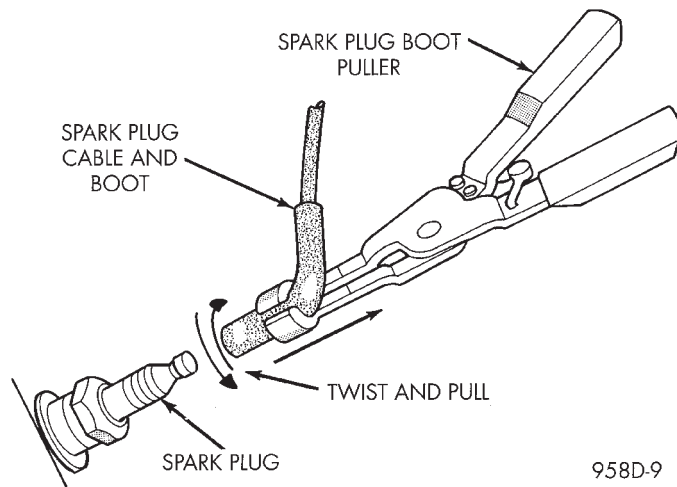

Fig. 19 Cable Removal
(1) Always remove spark plug or ignition coil cables by grasping at the cable boot (Fig. 19). Turn the cable boot 1/2 turn and pull straight back in a steady
CAUTION: When disconnecting a high voltage cable from a spark plug or from the distributor cap, twist the rubber boot slightly (1/2 turn) to break it loose (Fig. 19). Grasp the boot (not the cable) and pull it off with a steady, even force.